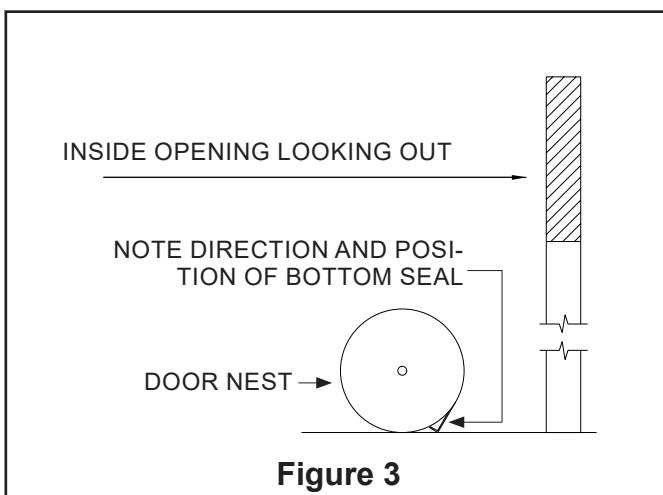

Figure 3
3.6 With enough room between the guides for the door nest, bring the nest in and lay it between the guides on the floor. Orient the door nest in the opening as shown in Figure 3.